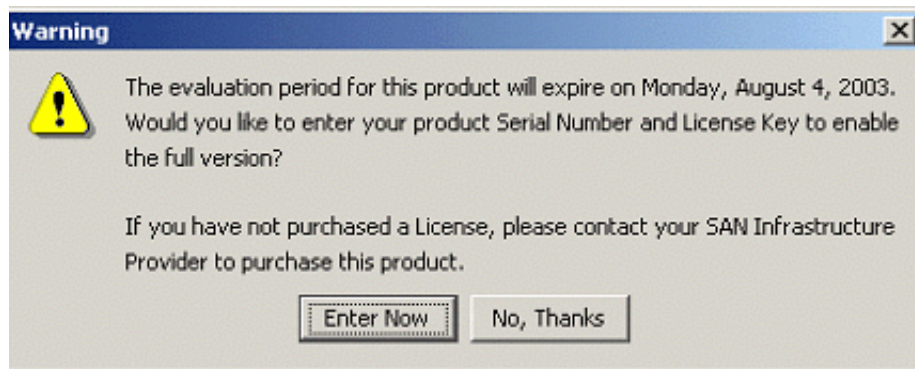

Figure 23 Evaluation version expiration warning
Each time you launch the Evaluation version of Fabric Manager, a warning message (see Figure 23) notifies you when the Evaluation version is to expire and gives you the option to register Fabric Manager (see "Registering Fabric Manager" on page 68) or to continue with the Evaluation version.
- Click **Enter Now** from the warning message that appears (see Figure 23) whenever you launch the *Evaluation* version of Fabric Manager. You will need to enter your serial number and license key.